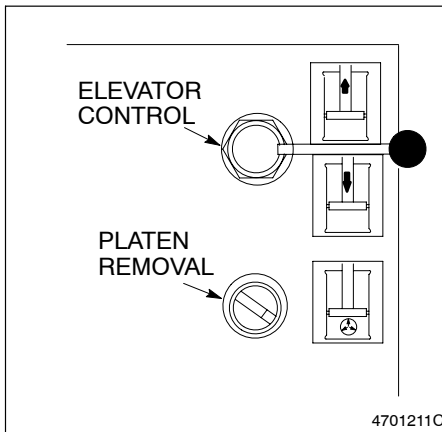

Fig. 5-2 Platen Elevator and Removal Controls
2. See Figure 5-2. Place the elevator control lever in the neutral position.